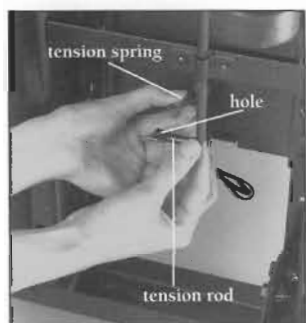

Figure 11
3. Attach the tension spring below the upper-body exerciser to the small hole in the tension rod (Figure 11). Be sure that the hole in the tension rod extends toward the rear of the base.